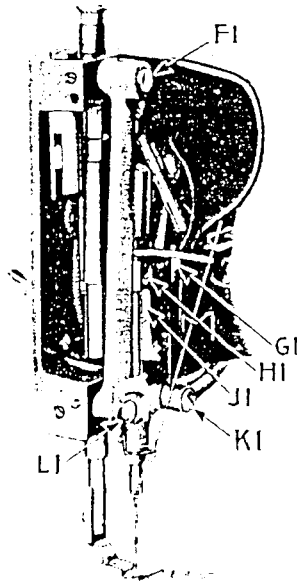

Fig. 19. Face Plate Removed
In case the needle bar is not correctly set, loosen the needle bar connecting stud set screw (HI, Fig. 19) and move the needle bar to the correct position, then tighten the set screw.
First turn the needle vibrator spindle head (A, Fig. 2) all the way to the right so that the needle will not vibrate when the machine is running. A straight needle should now come in the center of the needle hole in the throat plate. If it does not, loosen the set screw which holds the eccentric stud (KI, Fig. 19) and turn the stud (KI) until it does, then tighten the set screw.
Remove the arm shaft connection belt and the balance wheel. Loosen the set screws and remove the position screws in the upper belt pulley and the feed lifting eccentric (N, Fig. 5). Remove the top and bottom studs (F1 and L1, Fig. 19) and the eccentric stud (K1) in the needle bar frame after loosening the set screws which hold them, and remove the needle bar frame. Remove the two gibs (G1 and J1, Fig. 19) which hold the needle bar connecting link in the guide block. Loosen the set screw (at H, Fig. 3) which holds the take-up lever stud. Also remove the position screw and loosen the set screw in the perimeter of the needle bar crank, through the hole in the casting (B, Fig. 2), and remove the take-up and crank. Loosen the set screw (E, Fig. 3) which holds the front bushing and withdraw the arm shaft, with the front bushing, from the needle bar end. If the bushing should stick, insert a brass rod through the arm cap hole and drive the bushing out.